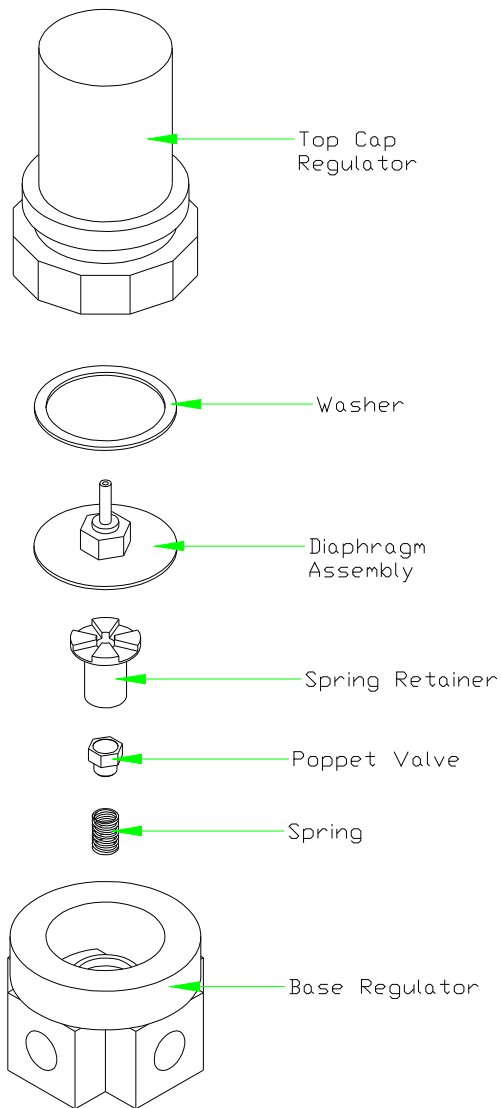

Figure 14: Exploded view of R07 Regulator
2. Replacement of components to be serviced on R07 regulator. Refer to Figure 14